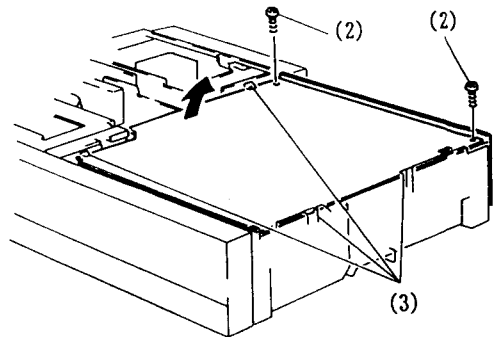

Fig. 4-3 YTJ Circuit Board(I)
3. YTJ Circuit Board (figs. 4-3, 4-4)